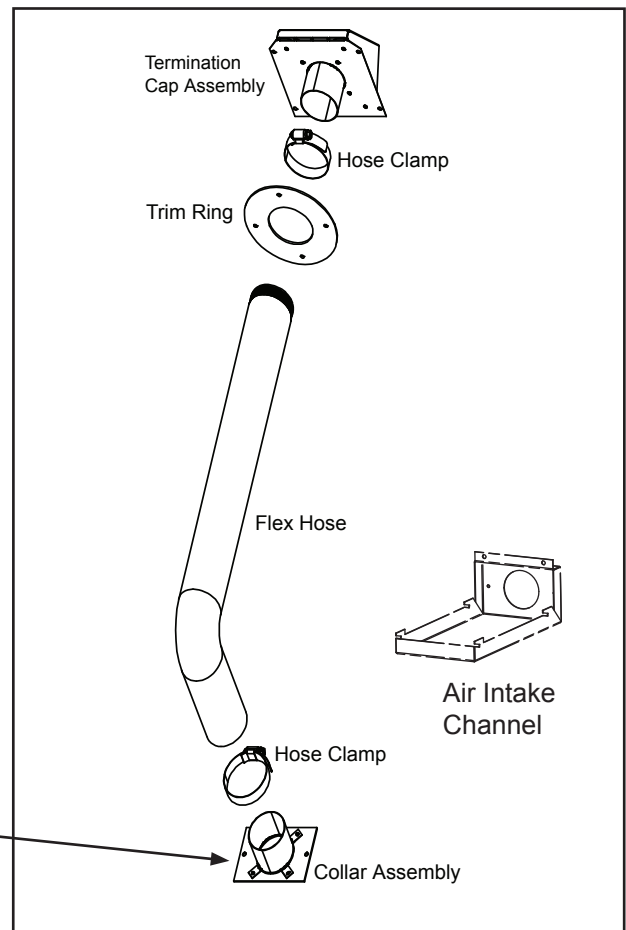

Figure 18.4
1. Put a layer of high temperature silicone on the 3 inch (76mm) rear exhaust outlet. **Do not put silicone inside of pipe.** **Figure 18.4**
2. Slide the top vent adapter onto the rear exhaust outlet and adjust the assembly to a vertical position. **Figure 18.4**
3. Drill 4 holes with #26 drill bit (provided) into the back of the appliance using the outer shield as a pattern (make sure the assembly is vertical). **Figure 18.4**